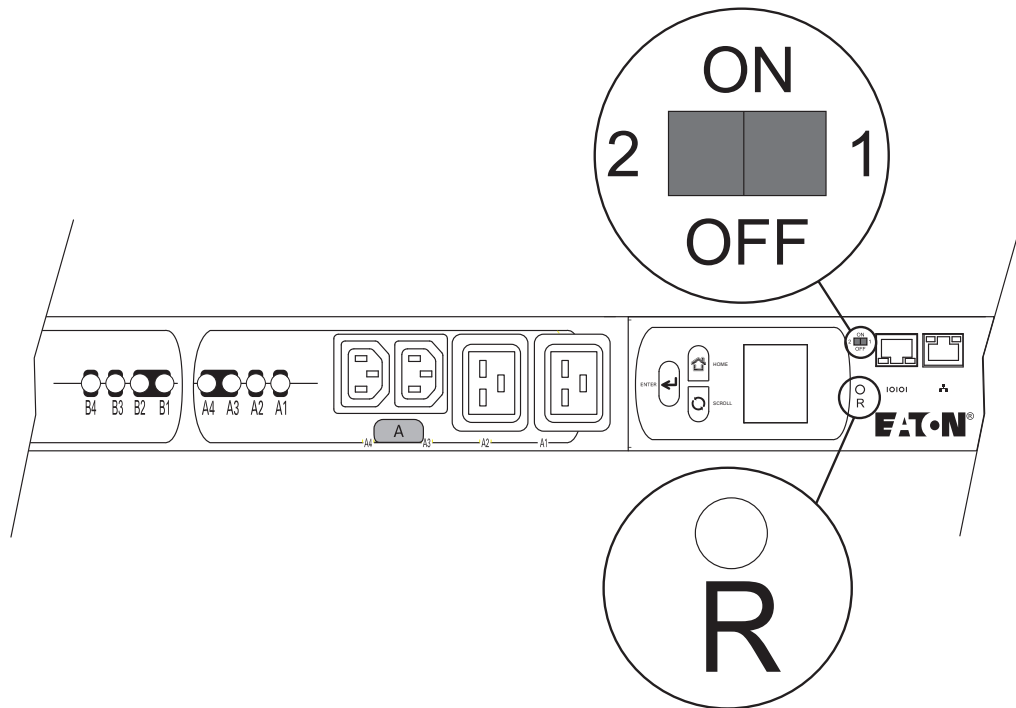

Figure 20. Operation Mode DIP Switches and Reset Opening for Probe
1. Ensure the position of the dual in-line package (DIP) switches is **Switch 1/OFF** and **Switch 2/OFF** (see Figure 20).